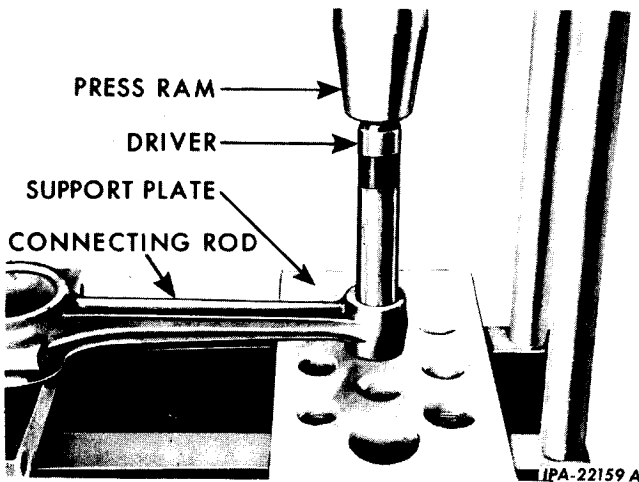

Fig. 9 - Removing Piston Pin Bushing.
12. Place connecting rod in arbor press and press old piston pin bushing from the connecting rod (Fig. 9).